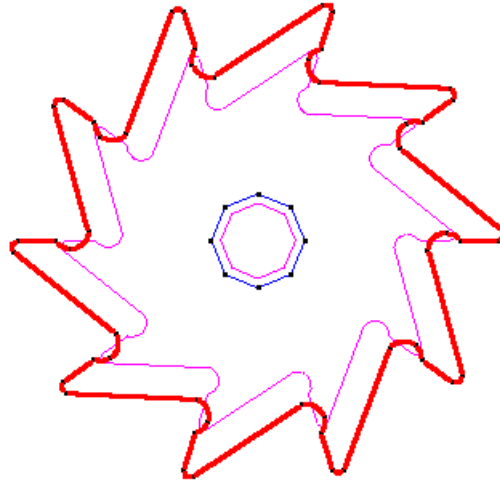

Figure 37. Selected lines of the wheel profile
- 4 . Select only the lines of the wheel profile (Figure 37) in the same way as in previous section and press **ESC**.